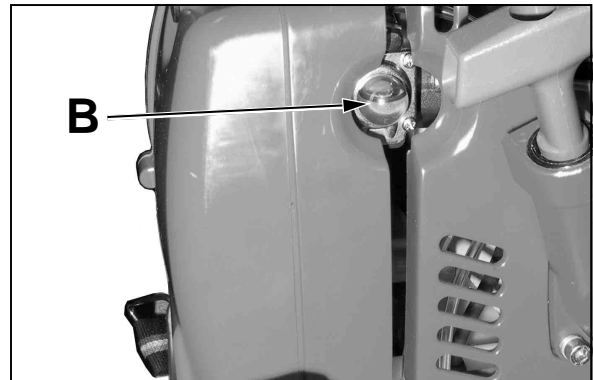

fig.2
- **Primer** device (“B” fig.2): draws fuel into the carburettor to aid cold starting, starting after refuelling, and after long periods of disuse.